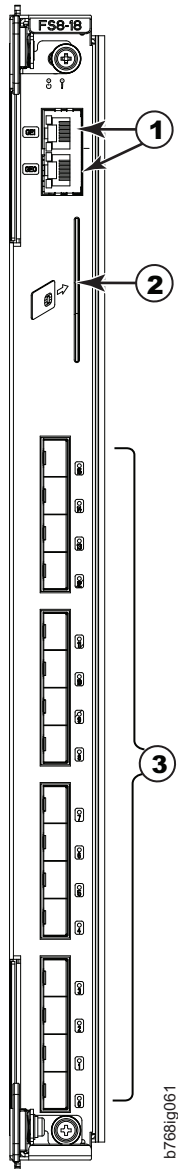

Figure 60. FS8-18 encryption blade
- Figure 60 on page 184 shows an FS8-18 encryption blade